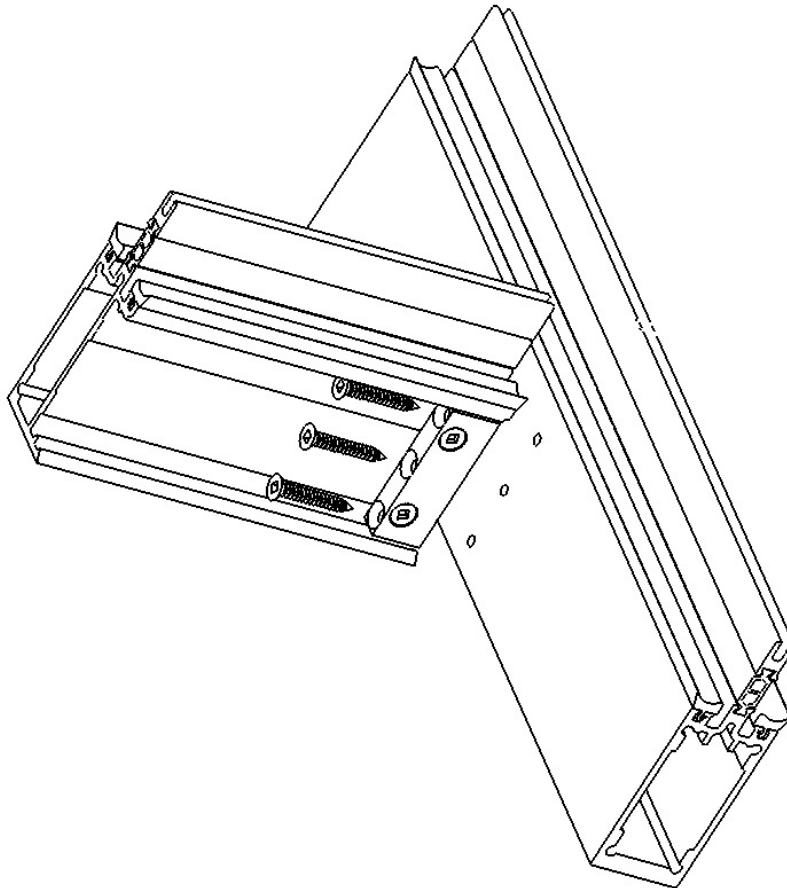

Figure 14
6. Place each of the horizontal T-bars between the vertical T-bars as pictured in Figure 14. Before inserting vertical T-Bar please insure to apply sealant at end of T-Bar, the open side of the horizontal T-bar with the pre attached brackets should be facing toward the sill (which will be facing down when the product is finally installed). Secure each end into location with (3) #10 x 1 1/4" screws through the pre-attached brackets into the pre-drilled holes on each of the vertical T-bars. (See Figure 14).